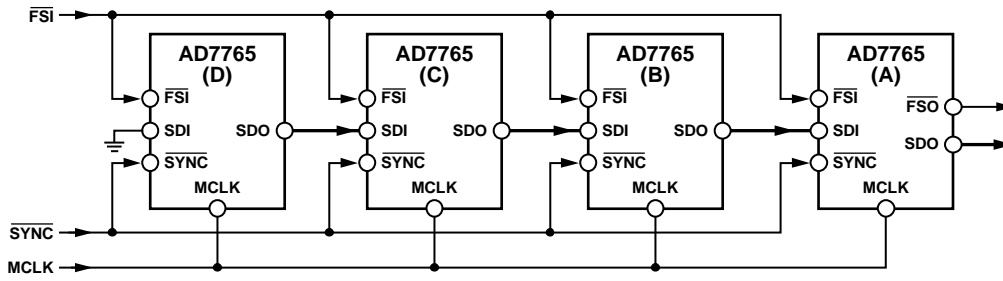

Figure 40. Daisy Chaining Four Devices in Decimate 128x Mode Using a 40 MHz MCLK Signal
The block diagram in Figure 40 shows how to connect devices to achieve daisy-chain functionality. Figure 40 shows four AD7765 devices daisy-chained together with a common MCLK signal applied. This configuration works in decimate 128x or decimate 256x mode only.
Referring to Figure 40, note that the SDO line of AD7765 (A) provides the output data from the chain of AD7765 converters. Also, note that for the last device in the chain, AD7765 (D), the SDI pin is connected to ground. All of the devices in the chain must use common MCLK and SYNC signals.